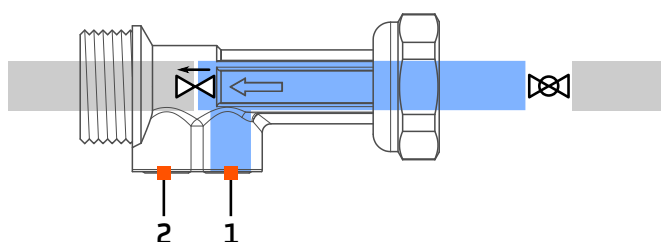

Fig. 1: VNR 01 installation layout.
3. Open the first test point (1 in Fig. 1);
The water content indicated in blue in Fig. 1 should pour out of test point 1, then the flow should stop.
In case water flow does not stop, check the valve sealing and eventually consider to replace the valve. Point 2 in Fig. 1 can be used to drain the system.